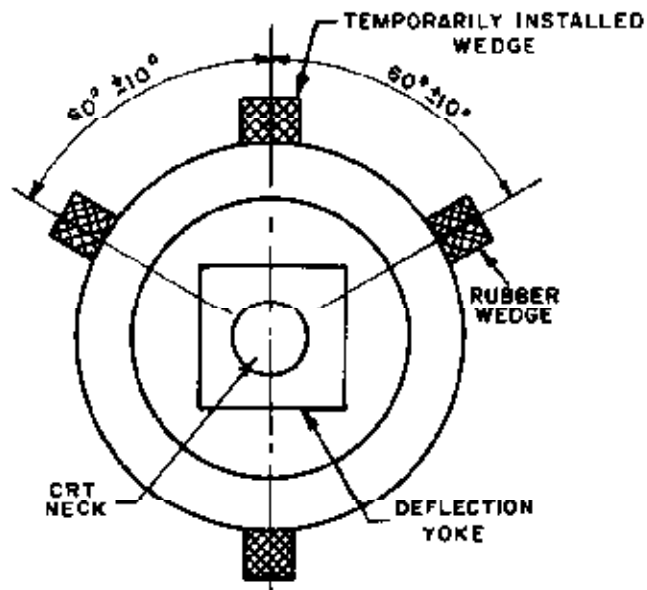

Figure 7 Proper Positioning of Rubber Wedges Under Deflection Yoke
- 4.2 Temporarily insert a rubber wedge as shown in Figure 7.
- 4.5 After you have positioned the yoke, insert three more rubber wedges in the positions shown in Figure 7. Do NOT force the permanent wedges in; insert the wedges until they just make contact with the yoke.